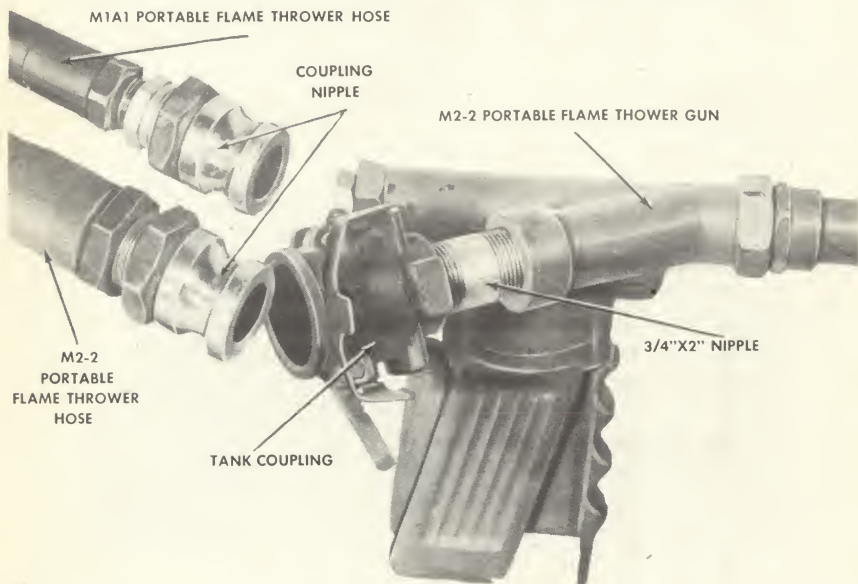

Fig. 8. Gun of M2-2 portable flame thrower adapted for hose.
b. Adapting M2-2 portable flame throwers. To prepare an M2-2 portable flame thrower gun so that it may be used with the manifold assembly as well as for usual use as a portable flame thrower gun, proceed as follows (fig. 8):
- (1) Unscrew flame thrower fuel hose from valve body.
- (2) Screw a 3/4-inch by 2-inch galvanized short pipe nipple into fuel valve body of gun.
- (3) Screw a tank coupling on the short pipe nipple.
- (4) Screw a tank coupling nipple on threaded end of fuel hose.
- (5) Tighten all joints with appropriate wrenches.